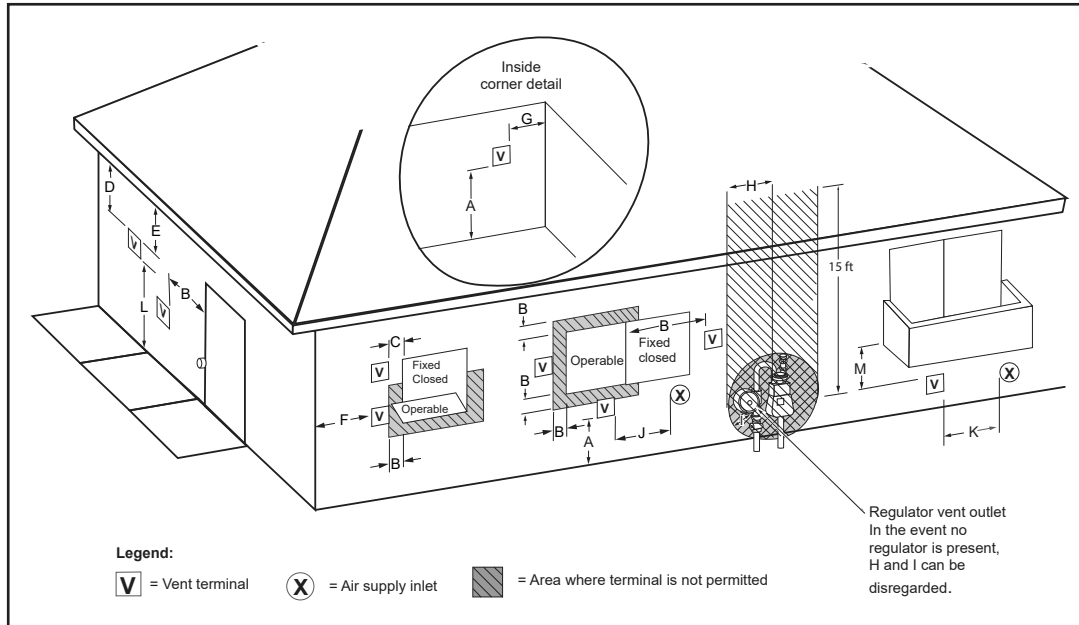

Figure 28. Sidewall Direct Vent Using Outside Air
3. If installing both intake air and vent piping in a Direct Vent configuration through a sidewall; ensure that all exterior sidewall clearance requirements for the terminations, shown in **Figure 28** (page 29), for the vent and intake air termination are being maintained. These clearances and those cited by local and national codes must be maintained.